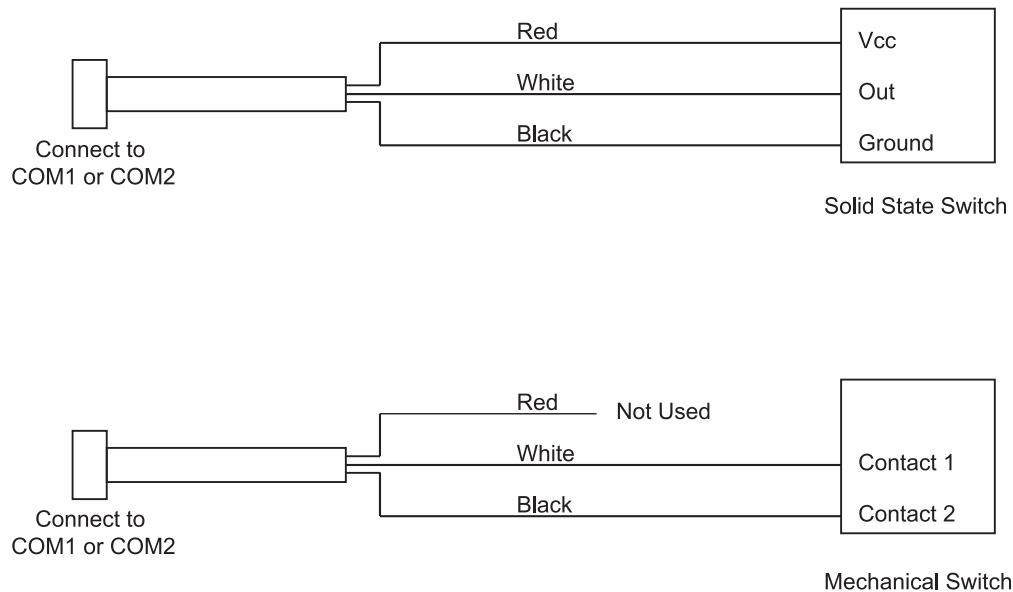

Figure 2-57 In-Motion Detector Cable Wiring
2. Wire the cable and switch as shown in Figure 2-57.